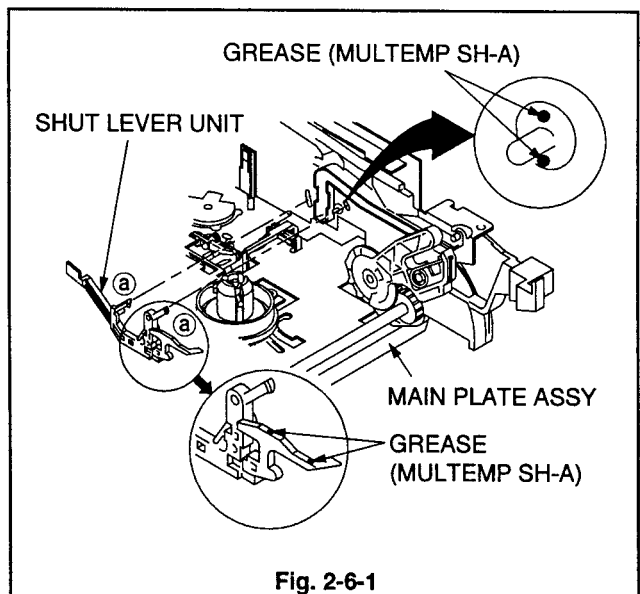

Fig. 2-6-1
1. To remove the SHUT LEVER UNIT, unfasten the two Catches (Ⓐ) of the SHUT LEVER UNIT shown in Fig. 2-6-1.
1. Apply GREASE (MULTEMP SH-A) [859D055O80] to the area specified in Fig. 2-6-1 on the MAIN PLATE ASSY.
2. Apply GREASE (MULTEMP SH-A) [859D055O80] to the area specified in Fig. 2-6-1 on the new SHUT LEVER UNIT.
3. Install the SHUT LEVER UNIT shown in Fig. 2-6-1.